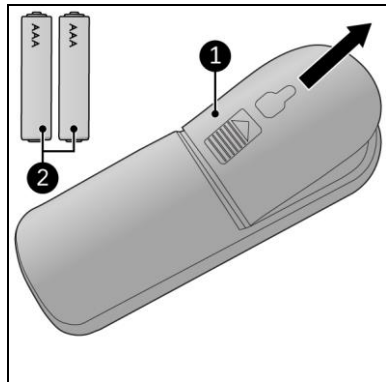

Figure 10
1. Remove the cover (Figure 10, pos. 1).
3. Insert two batteries (AAA 1.5 V) (Figure 10, pos. 2) as indicated in the battery compartment. Make sure to insert the batteries correctly.
5. Remove the batteries (Figure 10, pos. 2) from the remote control.